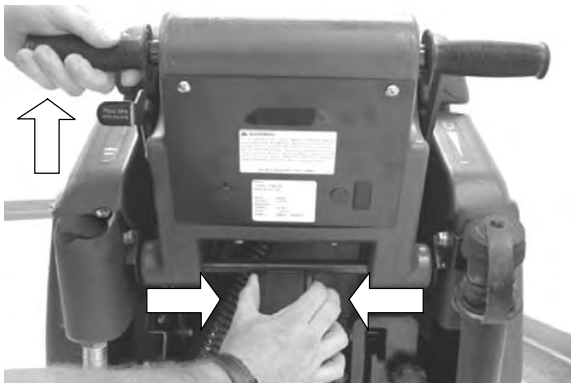

FIG. 16
1. Adjust control grips to a comfortable operating height (three settings). Squeeze two levers together, located under console, to raise and lower control grips (Figure 16).